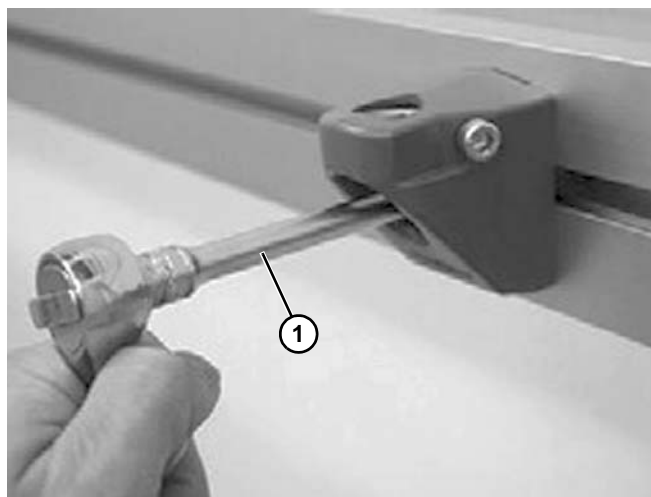

Figure 94
2. Attach the bracket onto conveyor beam and tighten with a socket wrench (**Figure 94, item 1**).